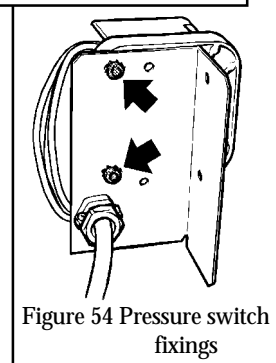

Figure 54 Pressure switch fixings
16.11.2 Detach the pressure switch from the control bracket by removing two screws, nuts & washers (see figure 54).